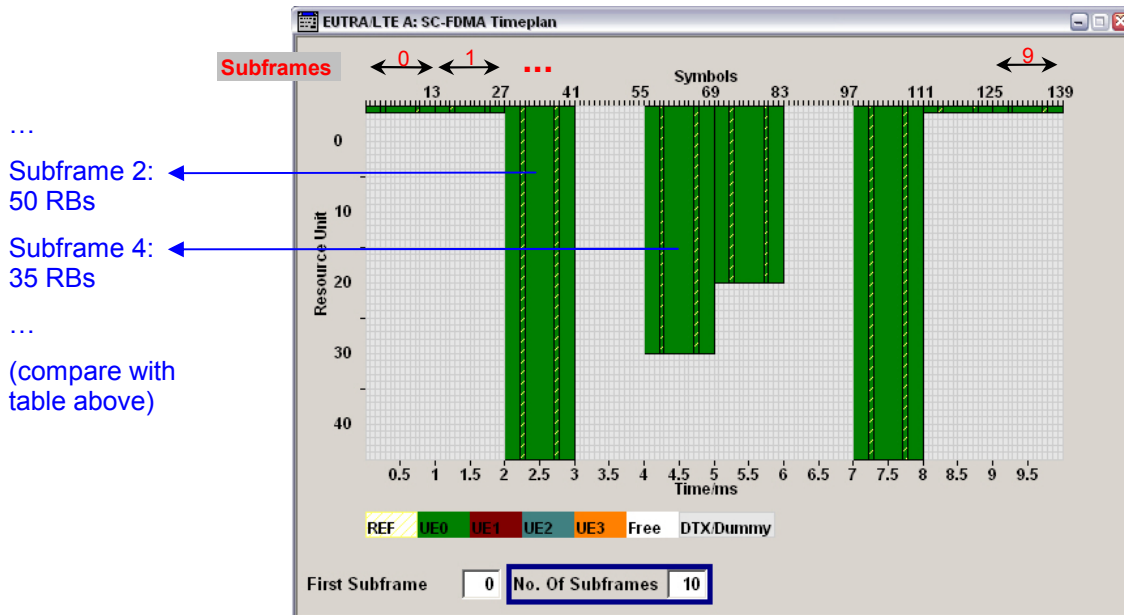

Figure 5-6 SMU EUTRA/LTE UL settings – Timeplan
- ①. Select the number of configurable subframes (1 .. 10)
- ②. Modify for each subframe (selected in 1) the cycle prefix and the number of used allocations
- ③. Take settings from the selected subframe (2) and copy to memory
- ④. Paste setting from memory to selected subframe (2)
- ⑤. Show timeplan (Figure 5-6) of configured signal
- ⑥. Configure each subframe individually (selected in 2)